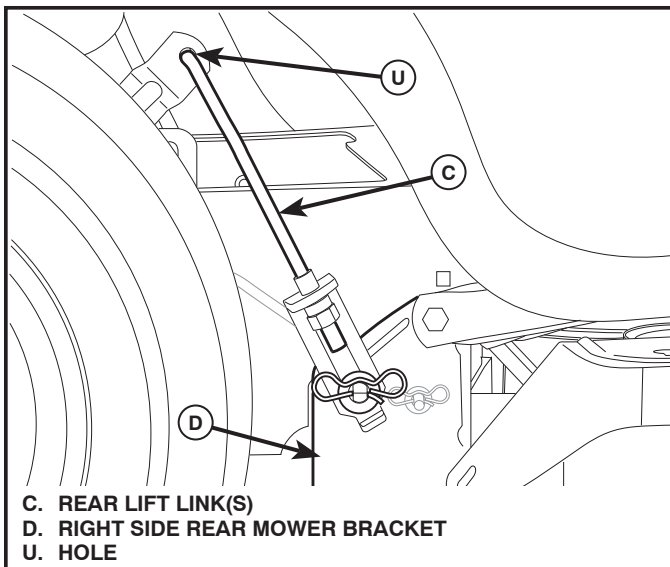

Fig. 30
7. ATTACH REAR LIFT LINKS (C) (See Fig. 30)
- Insert rod end of rear lift link (C) into hole (U) in tractor lift shaft suspension arm and pivot link down to mower.
- Lift rear corner of mower and position slot in link assembly over pin on rear mower bracket (D) and secure with large washer and large retainer spring.